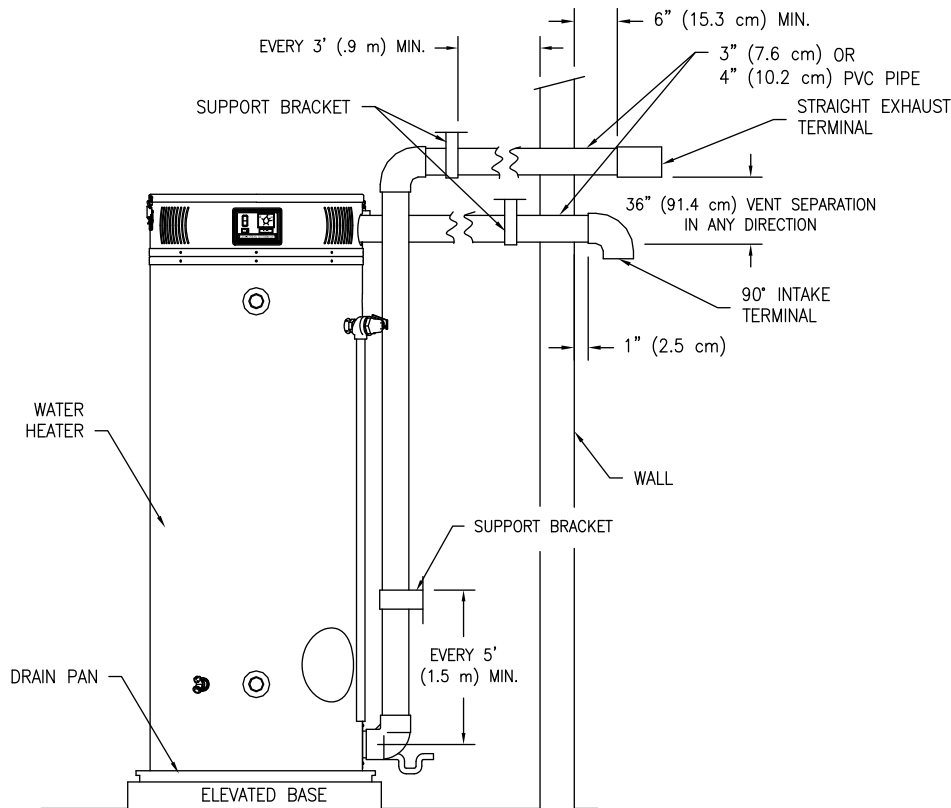

Figure 13. Typical Horizontal Direct Vent System
2. Use the proper PVC cement to secure the exhaust vent and air intake terminals provided with the water heater to the plastic pipes. The distance between the back edge of the exhaust vent terminal and the exterior wall (see Figure 13) must be 6 inches (15.2 cm) more for the exhaust vent terminal than the air intake terminal. Use the proper cement or sealant and assembly procedures to secure the vent connector joints between the terminal and the blower outlet. Provide support brackets for every 3 feet (.91 m) of horizontal vent beyond the intake terminal.